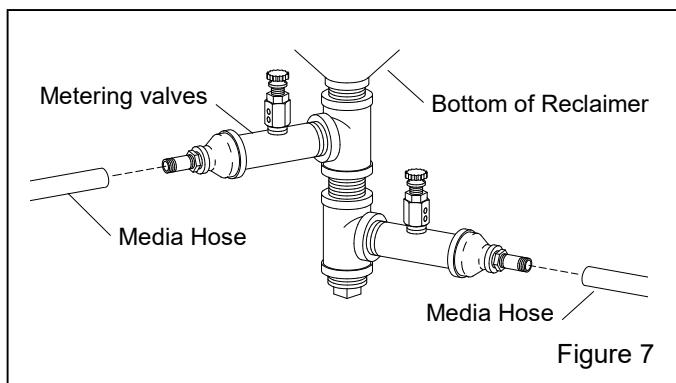

Figure 7
2.5 Connect Media Hoses – Figure 7
2.5.1 Media hoses are coiled under the cabinet. Slip the free ends of the black media hoses over the nipples on the metering valves, as shown in Figure 7. Hoses are held on by friction; it is not necessary to clamp them.